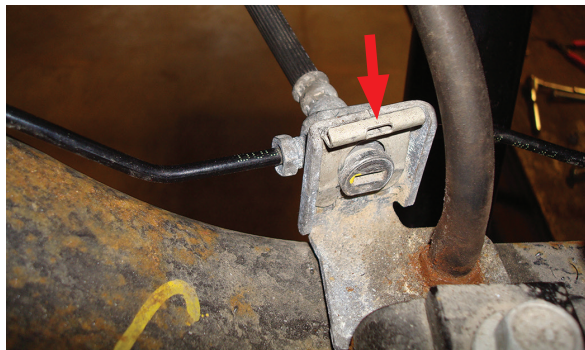

fig. 4
3. It will be necessary to temporarily remove the vent/brake line junction block on the driver side from the axle bracket (Fig. 4). Do this by pulling the clip off the front side of the junction block and pull it back to remove it from the bracket.